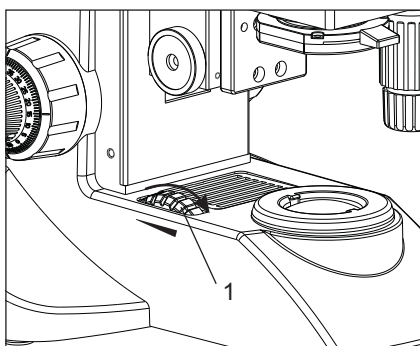

Fig. 15
2. Rotating the light intensity adjustment knob (fig. 15) in the direction of the arrow increases brightness and rotating it in the opposite direction decreases brightness. The figures around the knob indicate the intensity level.